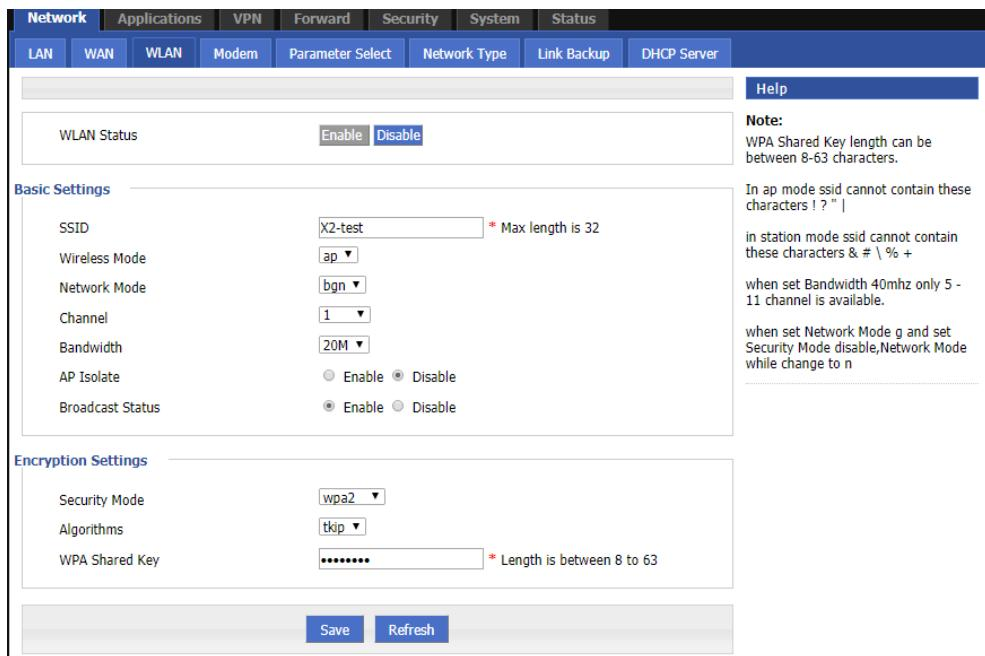

Figure 5-13 WLAN\_5G configuration tab
Step 3 Click Network Settings>WLAN\_5G. WLAN\_5G has only AP mode configuration tabs as shown in Figure 5-13.